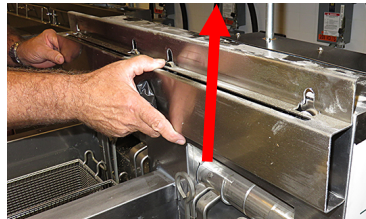
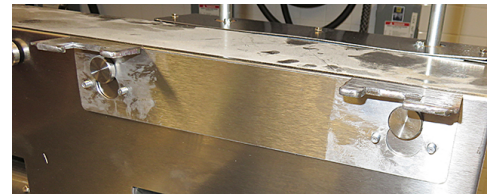

Figure 26
Figure 27
39. Remove existing basket lift hanger (see Figure 26) and discard. Slide new basket lift bracket over the existing studs (see Figure 27).